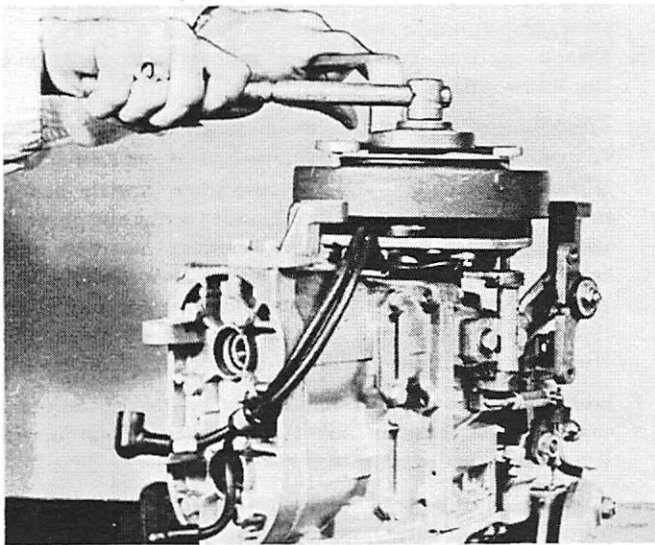

Figure 36. Removing Ratchet Nut
1. To remove flywheel ratchet nut, use Starter Ratchet Wrench (C-91-24710 or C-91-24719) to engage starter ratchet nut which fastens flywheel to crankshaft. Turn loose right hand thread with sliding "T" wrench ($\frac{1}{2}$ " drive). (Figure 36) If flywheel is to be removed for tuneup, use Universal Flywheel Holder (C-91-24973A1).